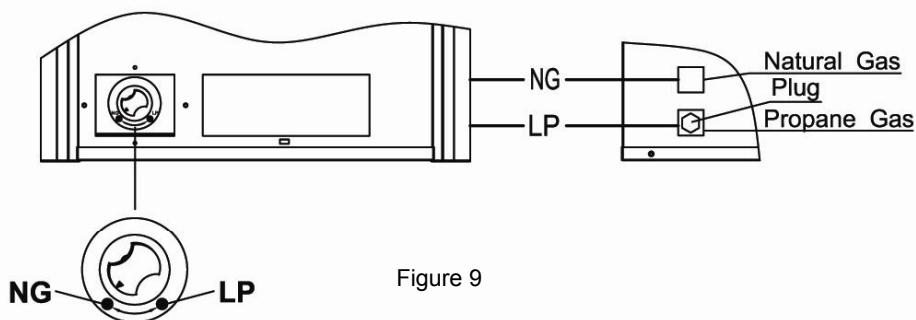

Figure 9
2. For NATURAL GAS, press in knob using a flat screw driver with a blade the thickness of a quarter and turn knob clockwise  until the knob locks into the NG position (see figure 9). Selection valve must be locked into either the NG position. Do not operate heater between locked positions!